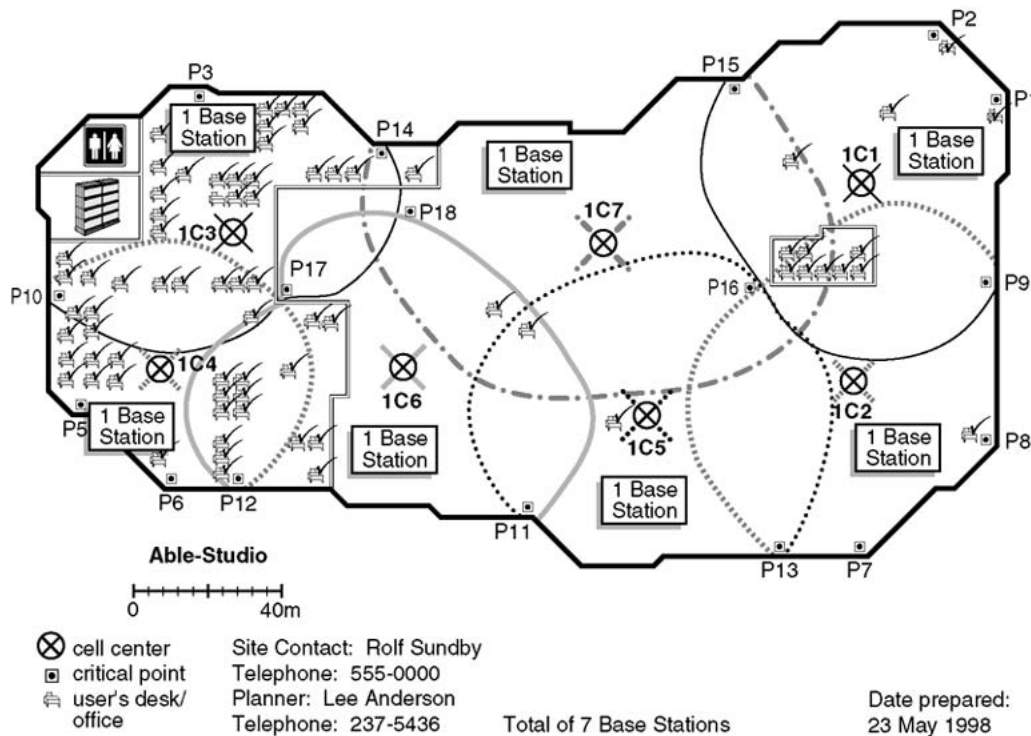

Figure 68: Example of a completed floor plan
2. a clean floor plan with all the information, as shown in Figure 68: Example of a completed floor plan on page 122;